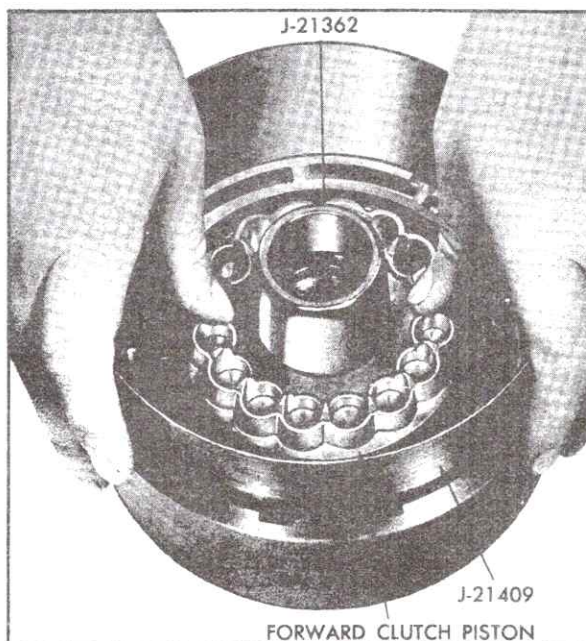

Fig. 7-189 Installing Forward Clutch Piston
d. Place Forward and Direct Clutch Inner Seal Protector, J-21362, over forward clutch hub. Install clutch piston inside Forward and Direct Clutch Piston Installer, J-21409, insert assembly in forward clutch housing, Fig. 7-189, and install clutch piston by rotating it slightly in a clockwise direction until seated.